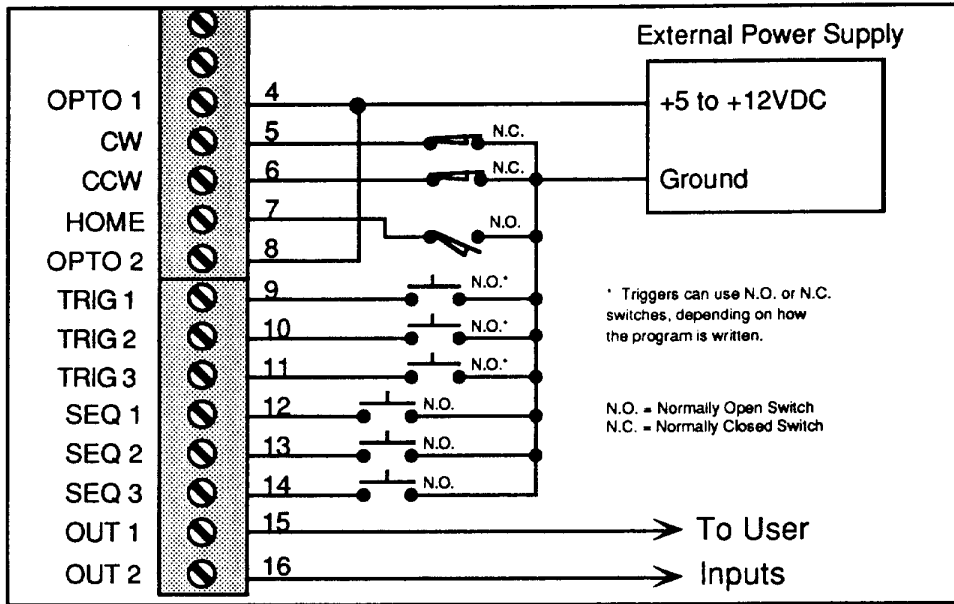

Figure 3-10. I/O Wiring Diagram
This section discusses wiring the user I/O interface circuits from the 16-pin connector on the AX Drive. Note that pins 1, 2, and 3 are for RS-232C communication with the computer or terminal. Figure 3-10 illustrates the other I/O connections.
**Opto 1 & 2** These inputs (pins 4 and 8) require a user-supplied 5 - 12 VDC to optically isolate the AX's I/O. An external supply is strongly recommended but is not required for operation. *NOTE: Pin 1 on the encoder connector (+5V) can also be used **only if the encoder is not connected**.* The Opto 1 input powers the limit and home switches, and the Opto 2 input powers the other I/O. In most cases, Opto 1 and Opto 2 are connected together. Refer to Figure 3-10 for connections.
**End-of-Travel Inputs** Pins 5 and 6 are the Clockwise and Counter-clockwise end-of-travel limit inputs. The CW and CCW limit inputs are activated in the high state and require a normally closed load-activated switch to the external supply ground. It is also necessary to connect a +5 to +12VDC power source to the OPTO 1 input (Pin 4); the Ground of this supply is used as the ground for the limit inputs. Refer to Figure 3-10 for limit switch connections.
**HOME INPUT** You can use the home input (pin 7) to establish a home reference position. The Home limit input on the AX is optically isolated, and is normally high. A normally open, load-activated switch to the external supply ground is the most common way for determining the home position in both motor step and encoder step mode. In encoder step mode, the Z channel pulse from the encoder is used in conjunction with the home limit switch to determine the home position. Refer to Figure 3-10 for switch connections.
Trigger Inputs	The AX has three trigger inputs. They are normally high and optically isolated. Trigger inputs 1 - 3 are connected to pins 9 - 11 respectively (see Figure 3-10). The +5 to +12VDC power source is still needed at the OPTO 2 input (Pin 8). The return line for the Trigger inputs is the OPTO 2 power source ground. See the TR and the TS command descriptions in Chapter 7 for functional description of these inputs.
Sequence Inputs	The AX has three optically isolated Sequence Select inputs (SEQ1, SEQ2, and SEQ3). They are normally in the high state. These optically isolated inputs require that 5 - 12 VDC be connected to the OPTO 2 input (pin 8). These inputs (pins 12 - 14) are active low , which means to energize them they must be at logic 0 or, ground. Therefore, ON is equivalent to the input being energized, or pulled down to 0VDC. OFF is equivalent to the input being de-energized, or logic high . These inputs are normally high. Refer to Figure 3-10 for Sequence switch connections.